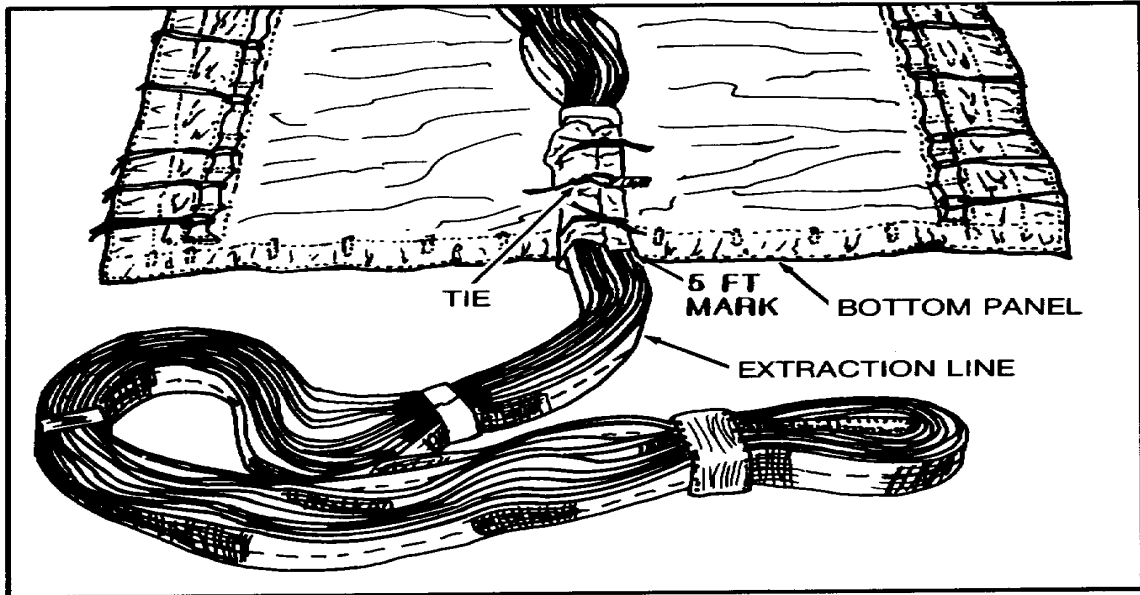

Figure 3. Extraction Line Secured to Bottom Panel.
- c. Pass running ends of 36-inch length of ½-inch tubular nylon webbing previously installed on panel between wrapped plies, pass each running end in opposite directions, down and under stow loop and back to top of extraction line. Secure running ends on top of extraction line with surgeon's knot, locking knot, and overhand knot on running ends (figure 3).